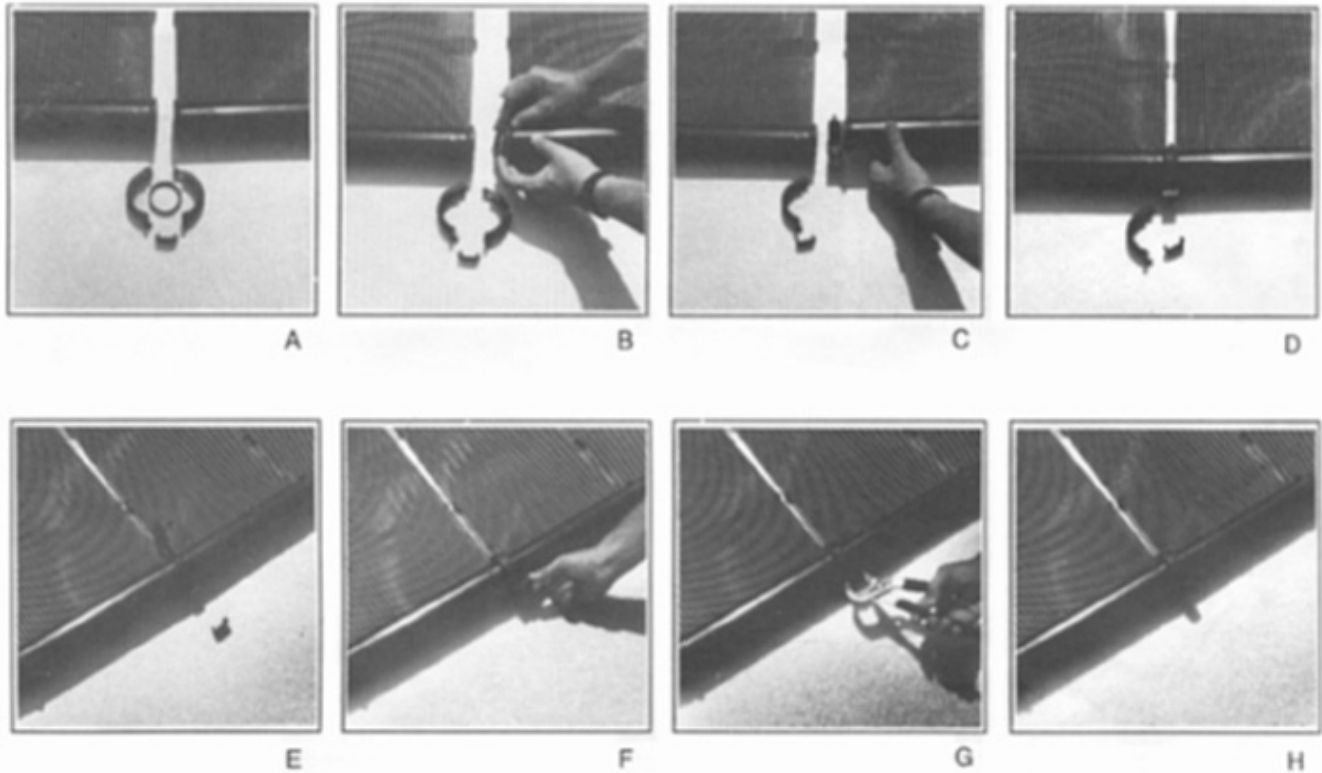

Fig. 7.1
1. Place two collectors next to each other. The spacer bars that hold the individual riser tubes together should be facing down. Lay a plastic panel clamp (2-1410-004) top, bottom, gasket and clip where the two headers meet. (Fig. 7.1-A)
3. Spray the gasket with silicone and insert it into the groove of one of the headers. Make sure that the gasket is fully seated into the header groove by pushing firmly with your thumb all the way around the gasket. (Fig 7.1-B)
4. Place the bottom half (see Fig. 7.1) of the plastic panel clamp (2-1410-004) under the collector header with the hook portion of the panel clamp on the inside of the collectors. (Fig. 7.1-C)
5. Seat both headers together by inserting the gasket into the opposite header groove and placing the ends of both headers into the open space in the panel clamp bottom. (Fig. 7.1-D)
6. Interlock the top half of the panel clamp with the hook on the bottom half. Swing top half over top of collector headers. Squeeze the top and bottom portions of the panel clamp together using channel lock pliers and lock both halves of the clamp together using the locking clip. (NOTE: Slide large end of locking clip over small end of plastic panel clamp assembly) (Fig. 7.1 - E & F)
7. Use channel lock pliers to tighten the clip grip by squeezing it with reasonable force until it seats flush or even slightly farther so it cannot slide out of its position. (Fig. 7.1-G)